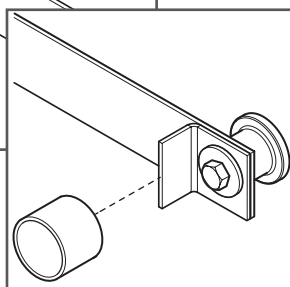

Figure 5A
10. Stretch rubber bumper (provided) over hard stop. Repeat for the hard stop on the other end of the track (Figure 5A).